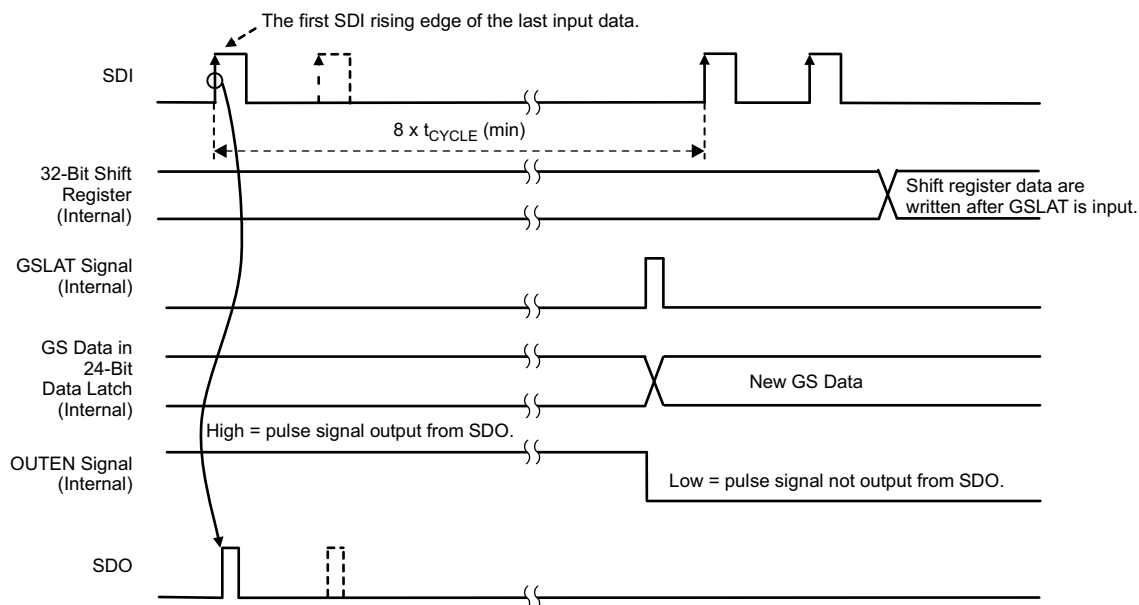

Figure 19. GS Data Latch Sequence (GSLAT)
A GS data latch (GSLAT) sequence must be input after the 32-bit data for all cascaded devices are written. When SDI is held low for the data latch hold time (t_{H1}), the 32-bit shift register data in all devices are copied to the GS data latch in each device. Furthermore, PWM control starts with the new GS data at the same time. Figure 19 shows the GSLAT timing.
7. The number of total bits is $32 \times N$. After all data are written, execute a GSLAT sequence as described in Figure 19 in order to copy the 24-bit LSBs in the 32-bit shift register to the 24-bit GS data latch in each device; PWM control starts with the written GS data at the same time.